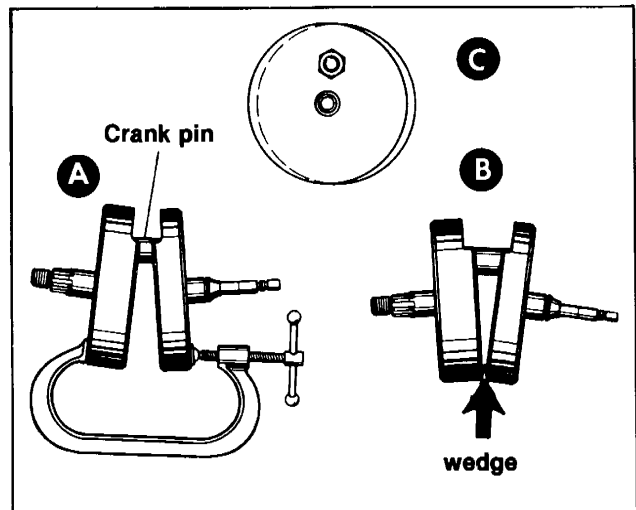

Figure 3-60. Types of Flywheel Misalignment
13. See Figure 3-60. Flywheel may be out of true three ways, A, B, and C, or a combination of two of the three ways.